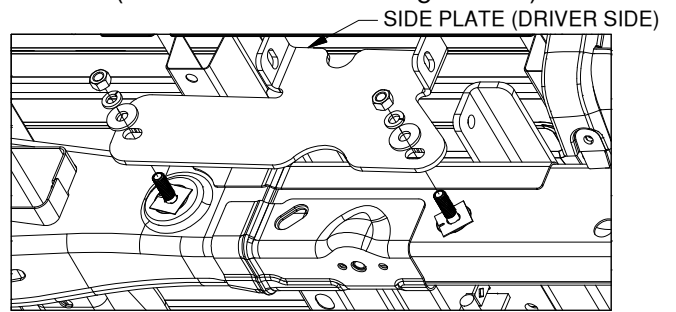

Figure C4: View of driver side wheel well.
3. **Install side plates.** Each side plate (driver and passenger side) will install over the carriage bolts previously placed into the frame. Slowly guide the side plate over the carriage bolts and between the cross members. Attach each plate (driver side shown below) with two 1/2" washers, 1/2" lock washers and 1/2" finish nuts, see figure C4. Do not fully tighten at this time. (Bolts should be hand tightened.)